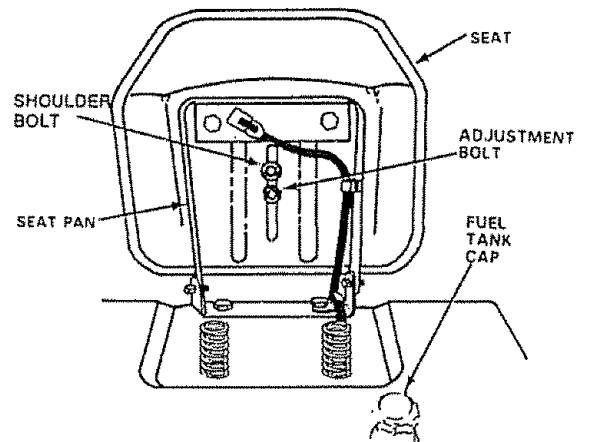

FIGURE 2
- a. Place seat on seat pan. Screw adjustment bolt, shoulder bolt, lockwasher and flat washer into seat (fig. 2). Bolts, lockwasher and flat washer found in bag of parts. Tighten shoulder bolt securely using a 1/2" wrench. Tighten adjustment bolt finger tight. NOTE: THE SHOULDER BOLT WILL BE LOOSE IN THE SEAT PAN SLOT
- c. To adjust, raise seat. Loosen adjustment bolt (Fig. 2) and slide seat to a comfortable operating position. Tighten adjustment bolt securely using a 3/4" wrench.